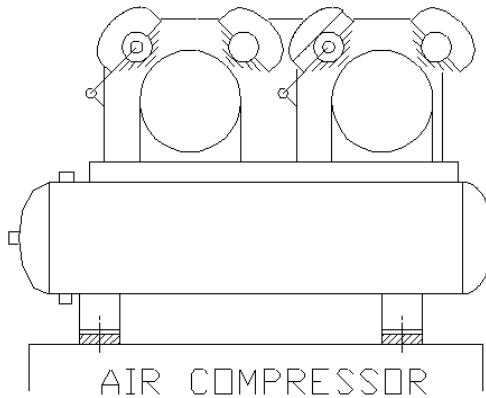

**Figure 7-2:** The completed air compressor.
13. Save your drawing. It should look like Figure 7-2.